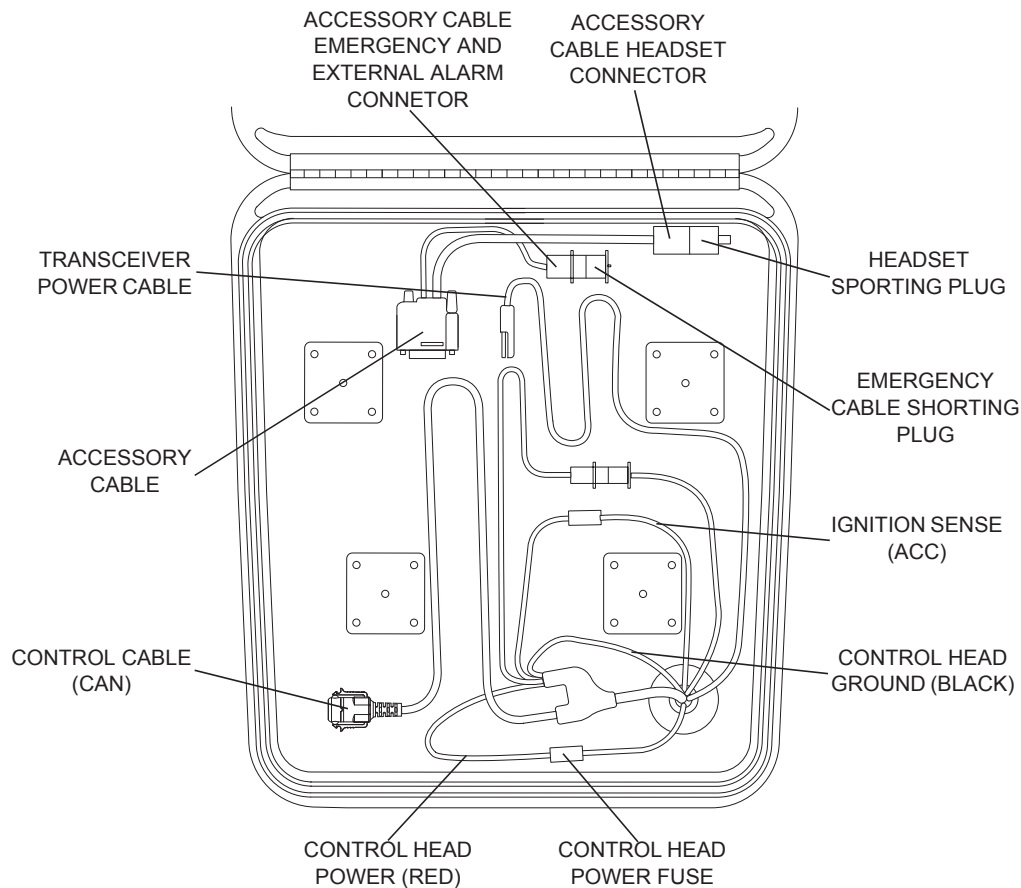

Figure 5-16. Installing Cables
2. Lay the excess cable length between the radio mounting bosses in an S configuration as shown in Figure 5-16. Do not coil any excess cable. Use the supplied tie wraps to bundle cable as shown.